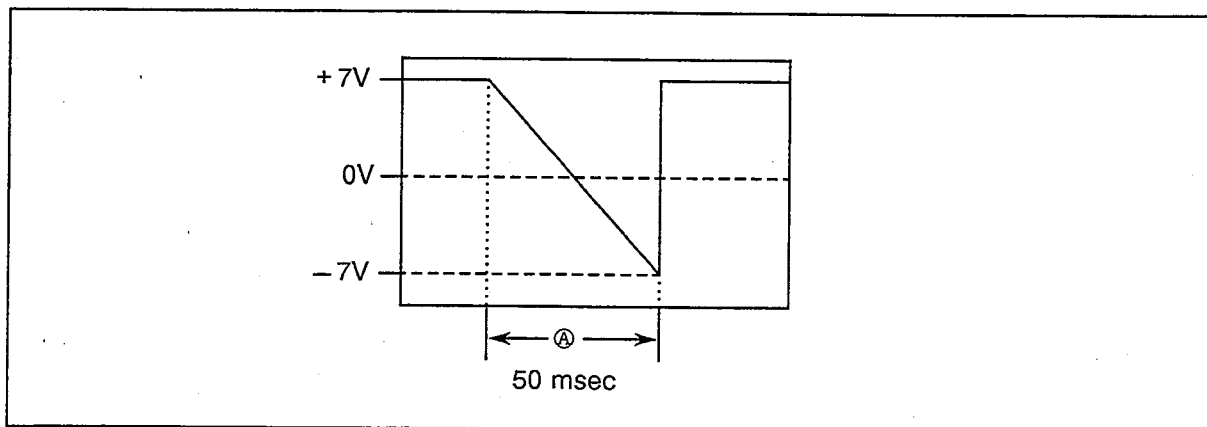

Figure 6-10 Output Waveform of Signal at Pin 17 of U43
- (2) Observe the signal of pin 4 (*STPAA) of U43 on the oscilloscope and make sure that this signal is TTL high.
- (3) Observe the signal of pin 19 (*RESET) of U43 on the oscilloscope and make sure that this signal is TTL high.
- (4) Observe the signal of pin 20 (CLKO) of U43 on the oscilloscope and make sure that this is the 20 MHz TTL signal.
- (5) Observe the signal of pin 17 of U43 on the oscilloscope and make sure that this signal has the same waveforms as shown in Figure 6-10.